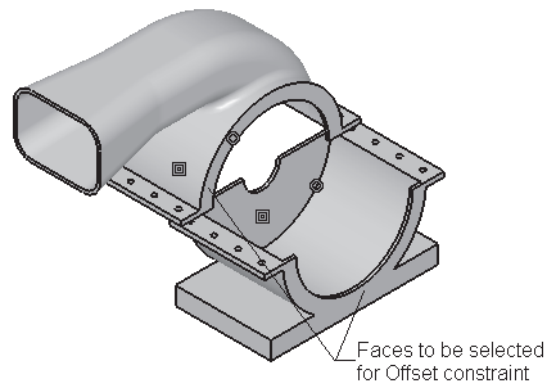

Figure 11-70 The surfaces to be selected for applying the **Offset** constraint
6. Choose the **Offset Constraint** button from the **Constraints** toolbar, and select the faces shown in Figure 11-70, to apply the constraint between them.